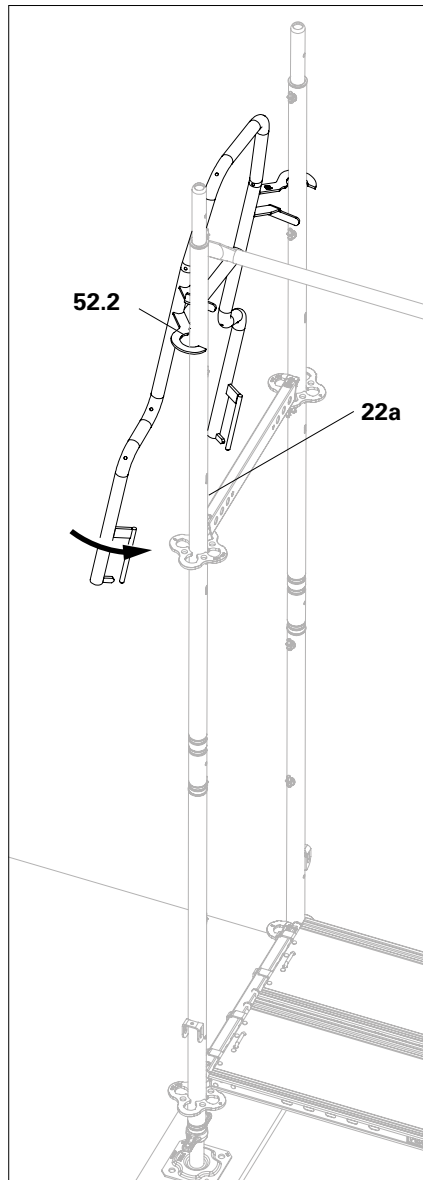

Fig. A3.12c
3. Swing the end guardrail in advance back and hook the second fork (52.2) over the outer tube (22a). (Fig. A3.12c)